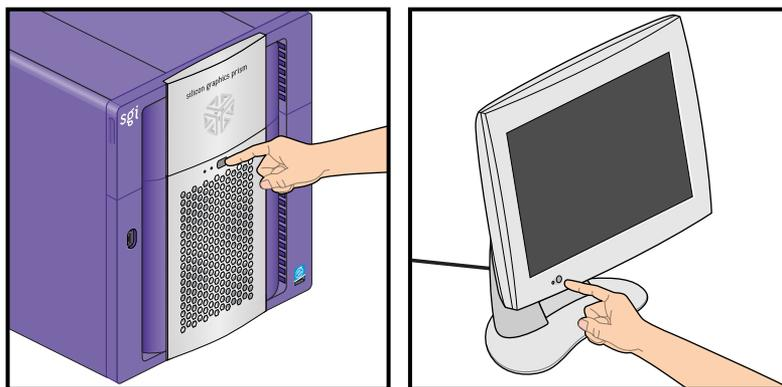

Figure 3-1 Powering Off the System
1. If you are logged in to the system, log out. Then, press the power buttons to power off your system and monitor (see Figure 3-1).